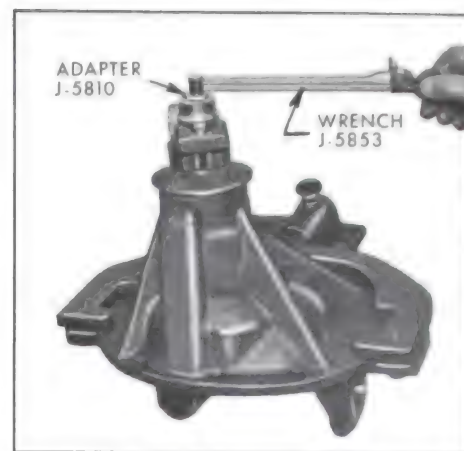

Figure 6-31—Checking Pinion Bearing Preload
7. Rotate pinion three or four times to seat bearings. Turn pinion slowly with an inch pound torque wrench; bearing preload including drag of new seal should be 15 to 35 inch pounds. See Figure 6-31.